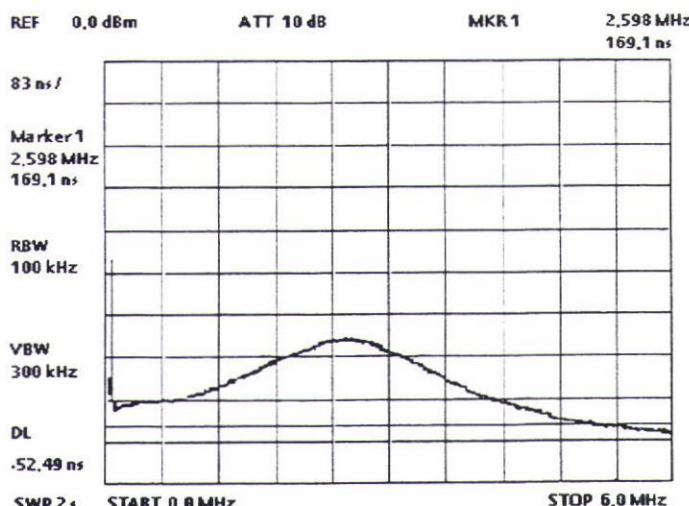

Fig. 7-7 Group delay of allpass filter 3
- Adjust the group delay with R401 so that a delay difference of approx. 178 ns is obtained between 2.6 and 5 MHz (see Fig. 7-7).